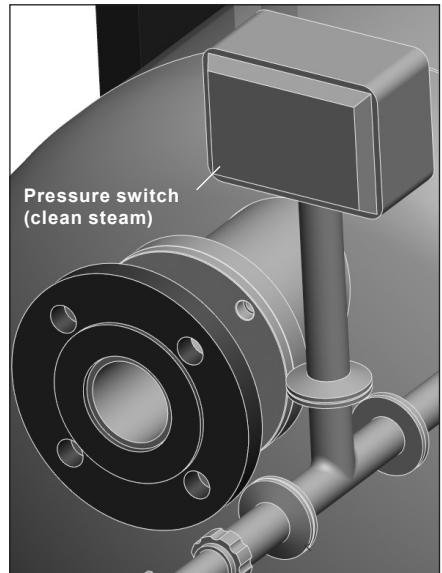

Fig. 18
5.4.6 Pressure safety switch - Figure 18